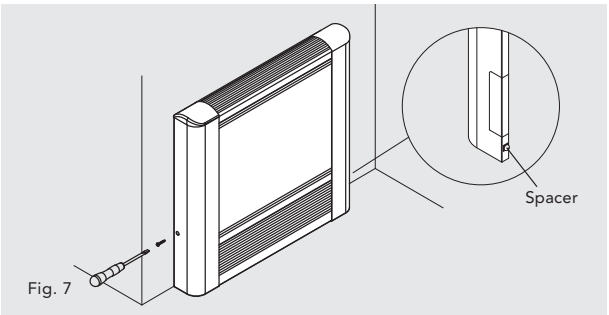

Fig. 7
- Fit the two self adhesive spacers to each back return of the LST enclosure below the pipework knock-outs as shown (see fig. 7).